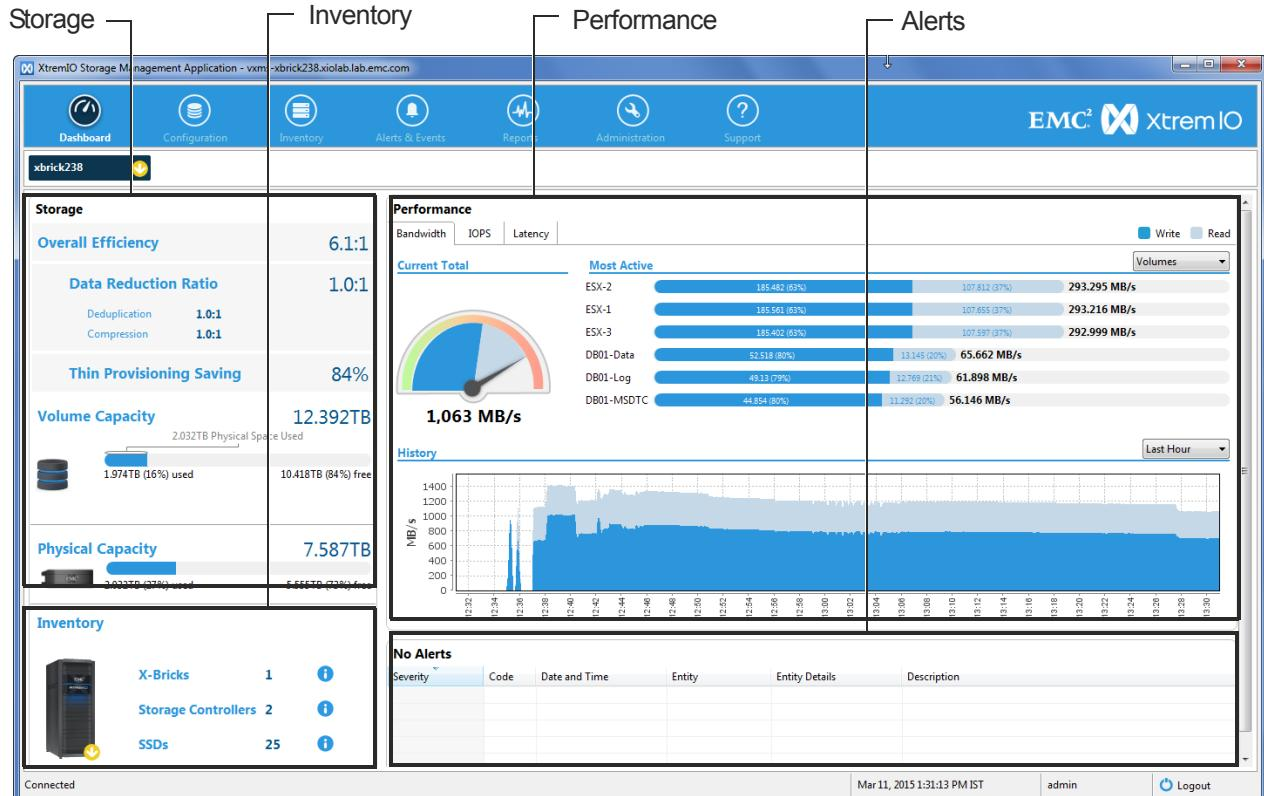

Figure 17 Dashboard Workspace
16. Click **Login**; the system launches the XtremIO Storage Management Application and displays the Dashboard workspace, as shown in Figure 17.
The Dashboard workspace, as shown in Figure 17, appears upon: